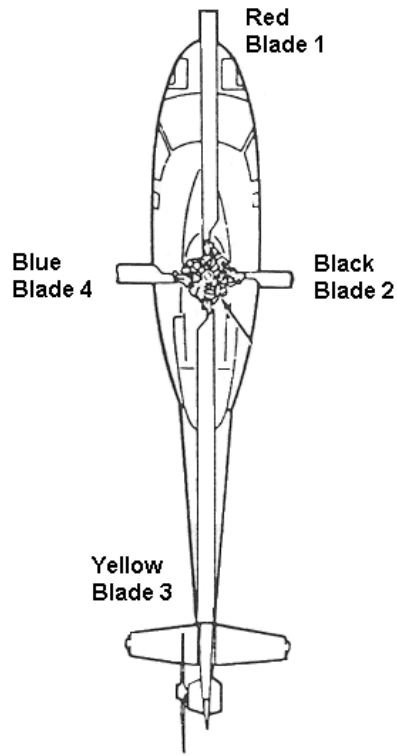

Figure 1
1. Turn the Main Rotor and position the Red Blade over the nose of the aircraft. This will become Blade number 1 for tracking references. The remaining blades will be numbered in passing order, Black will be Blade 2, Yellow will be Blade 3, and Blue will be Blade 4. (See Figure 1)